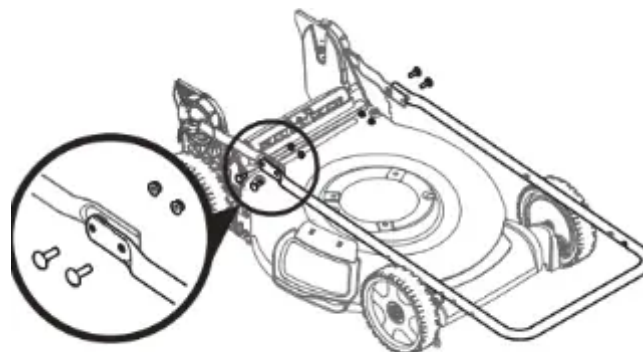

Figure 12
4. Using the four carriage bolts and nuts removed in STEP 2, secure the upper handle to the lower handle, Tighten hardware securely to secure the handle in place (Figure 12).